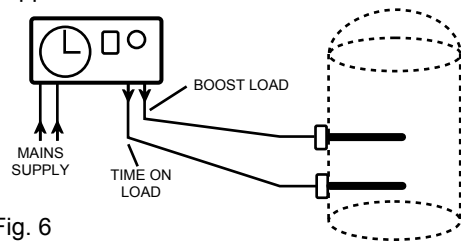

Fig. 6
1. Connect the 'BOOST' and the 'TIMED ON' as required in Fig. 6,7 & 8.